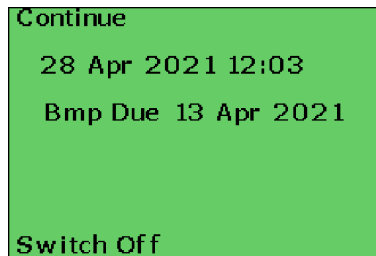

Figure 11: Warm-up - Bump Overdue
4. Bump Due enabled - if overdue, user acknowledge is required. As shown in Figure 11: Warm-up - Bump Overdue.